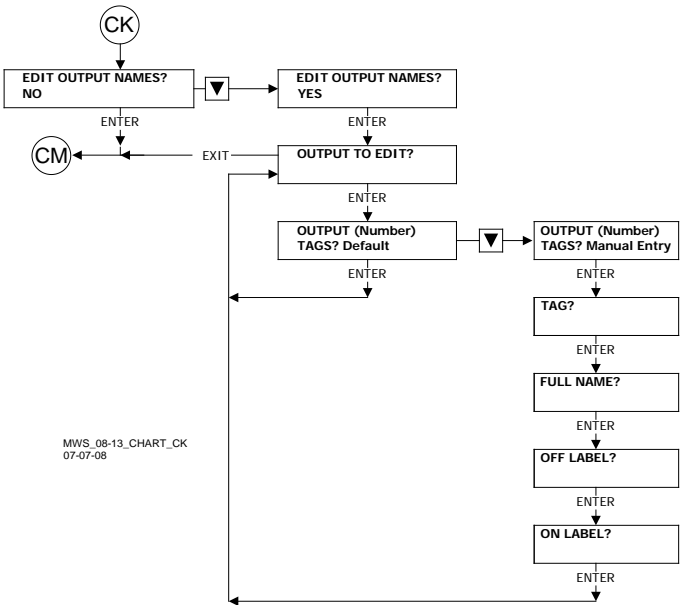

Figure 6-15:
- Link CK is found on Chart CJ (Figure 6-14) and is also found on Chart CK (Figure 6-15)
- Link CM is found on Chart CK (Figure 6-15)